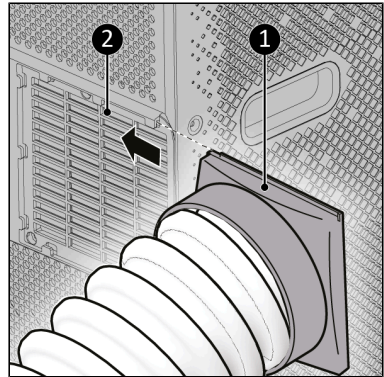

Figure 32.
7. Connect the hose connector (Figure 32, pos. 1) to the hot air outlet of the device (Figure 32, pos. 2).